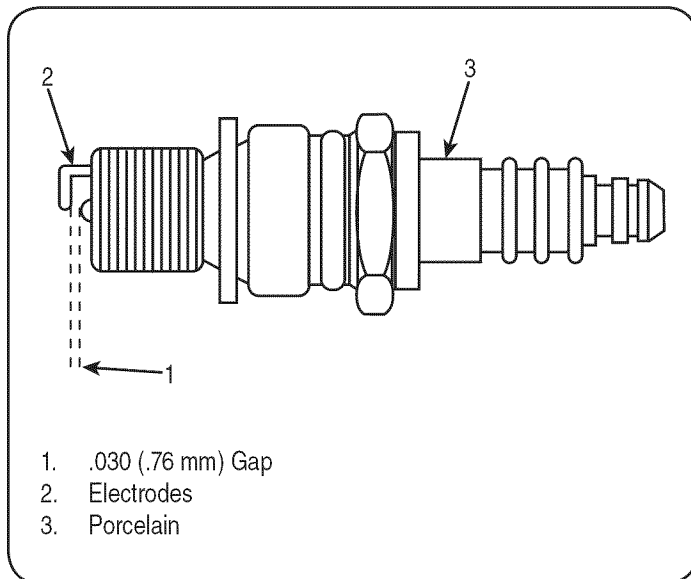

Figure 18
4. Check the electrode gap with a wire feeler gauge and reset the gap to .030 inches. See Figure 18.